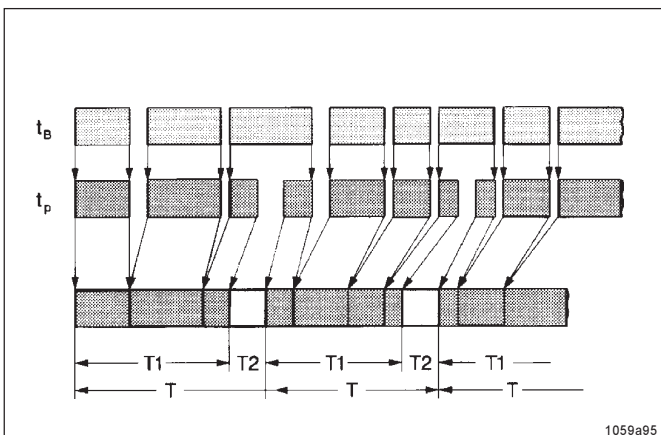

Fig. 6 - Time sequence diagram
- automatically controls the sequence of the pause and operating times of the 203 central lubrication pump as a function of the machine working hours t_B (Fig. 6) and as a function of the machine contact (external contact).
- A lubrication cycle consists of one pause time and one operating time. Once the pause time has elapsed, the operating time starts to run. This lubrication cycle is repeated permanently after the machine has been put into operation. Refer to Fig. 6.